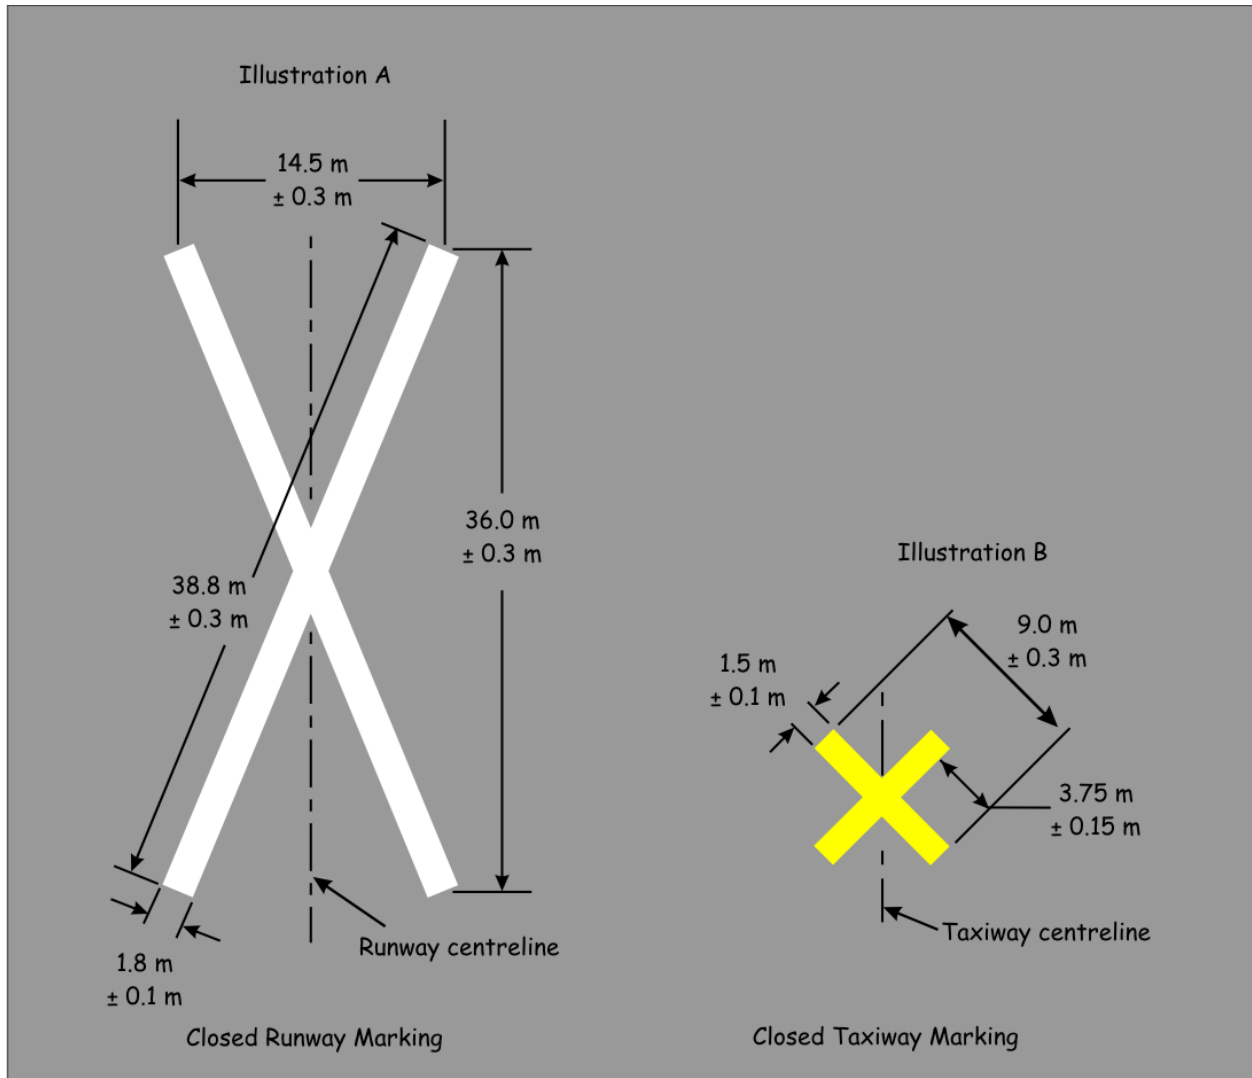

Figure 5-20: Closed runway and taxiway markings
- 5.2.24.5** Subject to 5.2.24.7, the unserviceable/closed marking on a runway is white and of the form and proportions detailed in Figure 5-20, Illustration A.
- 5.2.24.6** Subject to 5.2.24.7, on a taxiway or apron, the unserviceable/closed marking is yellow and of the form and proportions detailed in Figure 5-20, Illustration B.
Note 1: The intent of (b) is to allow for the use of alternatives to paint such as a large plastic X that would be of the form and proportions of Figure 5-20.